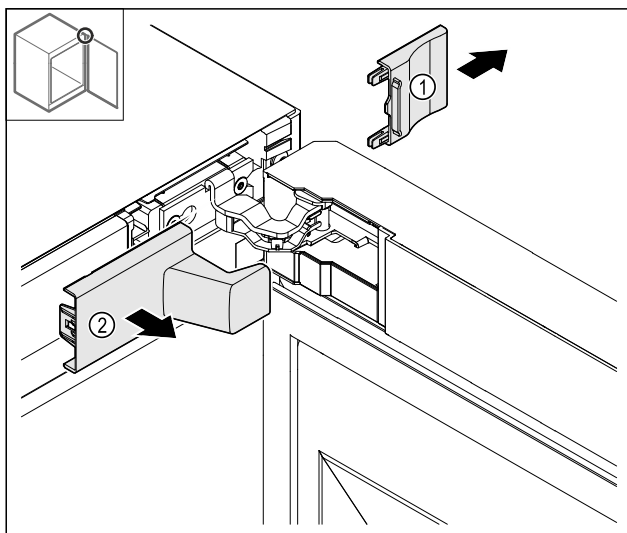

Fig. 10
- Remove the cover Fig. 10 (1) and then Fig. 10 (2).